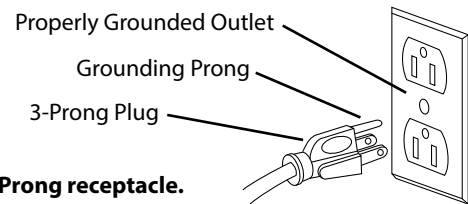

Figure 5 – 3-Prong receptacle.
Refer to Figures 5, 6, 14 and 15.
- This tool is equipped with an approved 3-conductor cord rated at 300V and a 3-prong grounding type plug (Figure 5) for your protection against shock hazards.
- Grounding plug should be plugged directly into a properly installed and grounded 3-prong grounding-type receptacle, as shown (Figure 5).